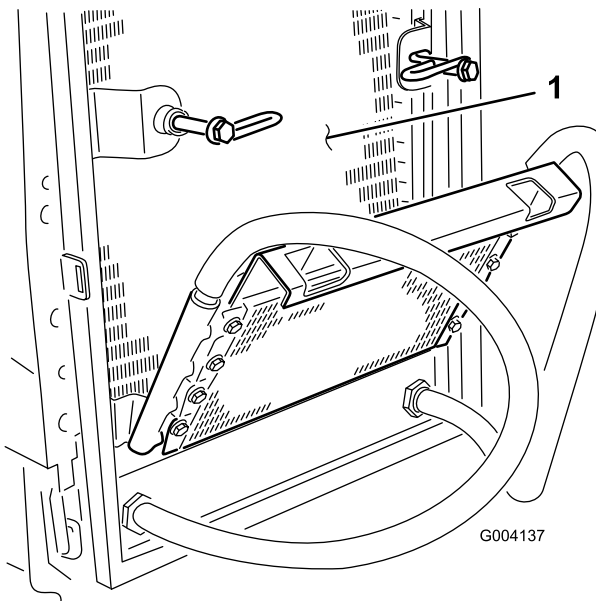

Figure 64
6. Thoroughly clean both sides of the oil cooler and the radiator (Figure 64) with compressed air.